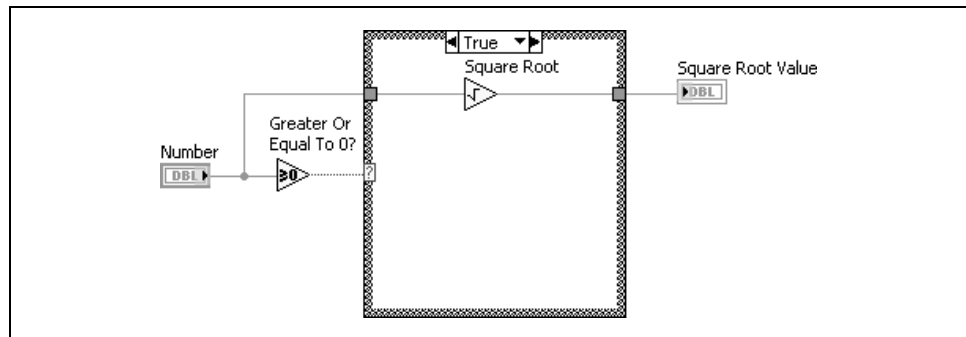

Figure 4-44. True Case of Square Root VI
- Wire the function as shown in Figure 4-44.